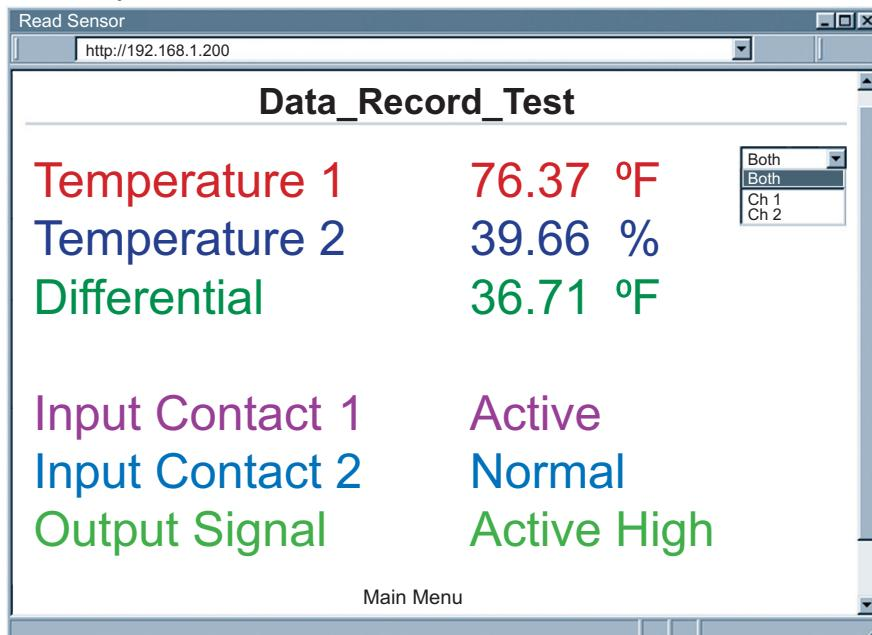

Figure 4.7 Read Sensor
- Click on **Read Sensor**. In a few seconds the following page (**Figure 4.7**) will appear with all default values of 100.00. Then the actual readings of Temperature will display.